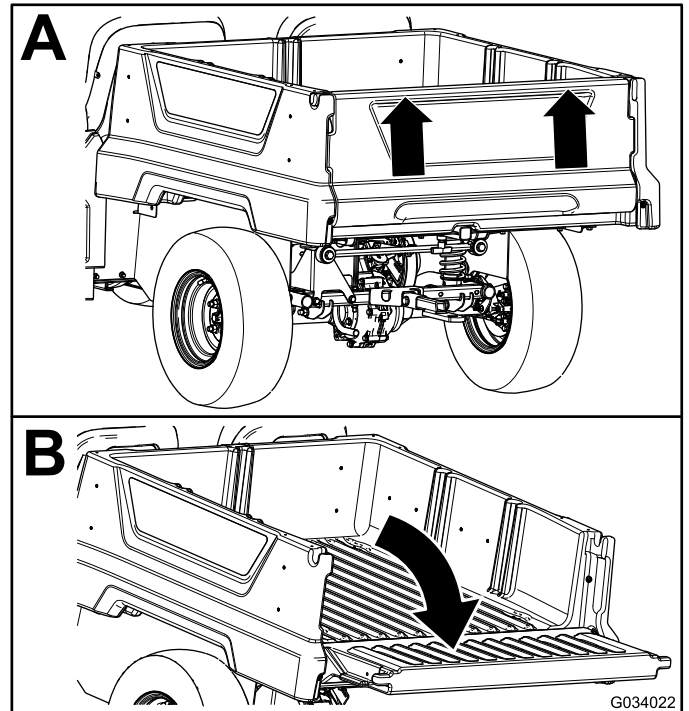

Figure 17
2. Using both hands, raise the tailgate using the ridge near the top of the tailgate (Figure 17).
3. Lower the tailgate until it is flush with the bottom of the cargo bed (Figure 17).